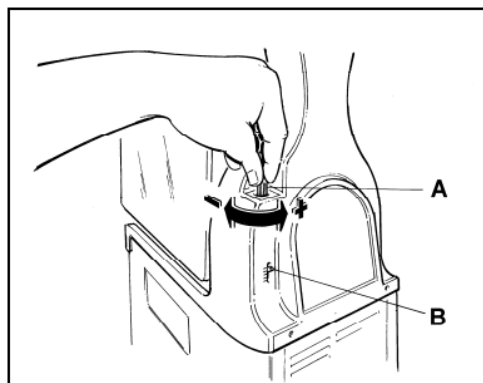

Fig. 13
2. Adjusting the consistency: to alter the consistency of the product, turn the screws located on the back of the machine in the following way: clockwise to make the product less dense, counterclockwise to make the product denser (see figure 13).
3. For the initial install it is recommended to adjust (B) so that it is at ¼ from (-). Adjust higher or lower if needed after running the machine for several hours to whatever consistency level you desire.